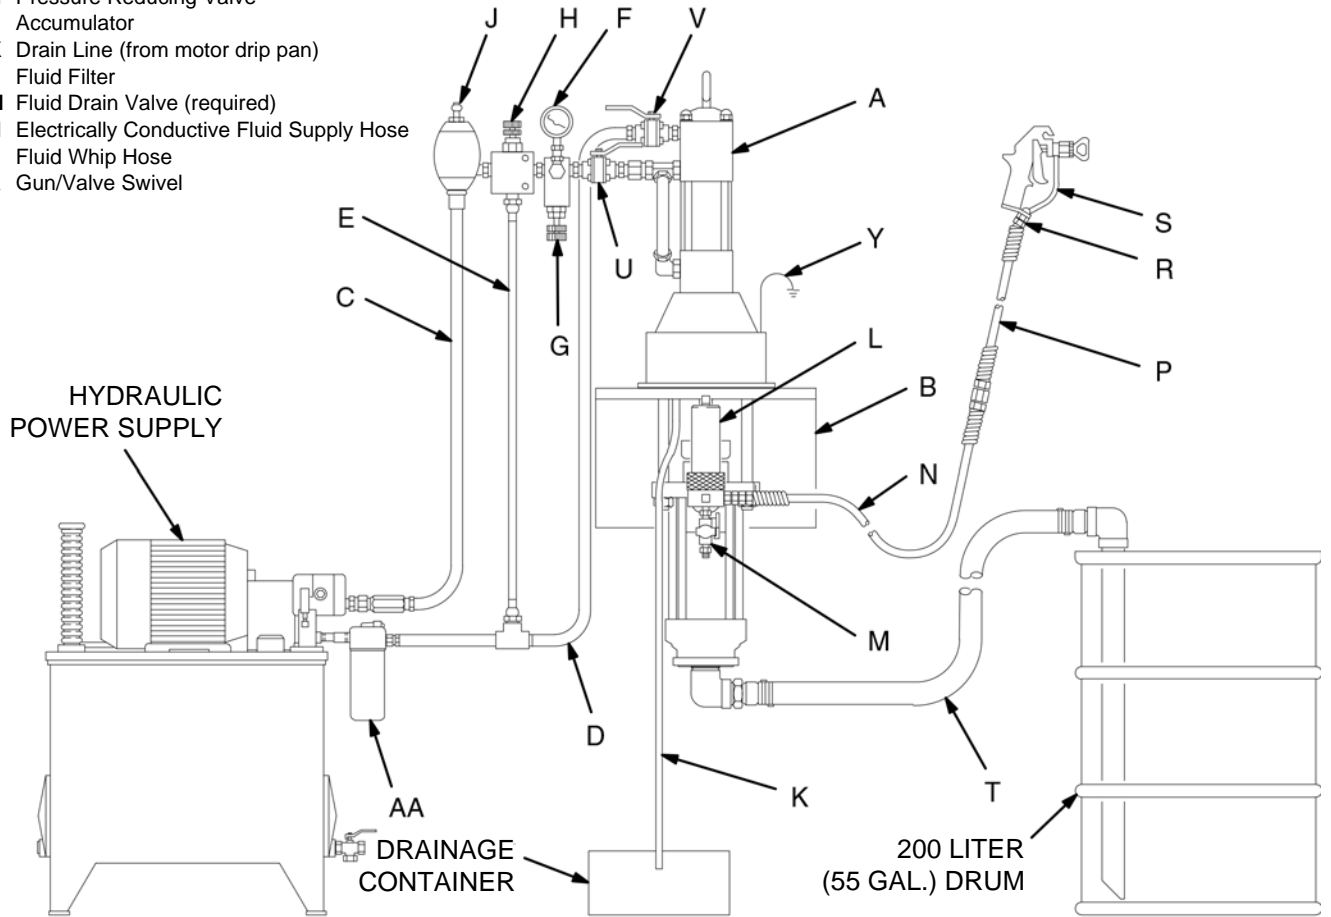

Fig.5
Mount the pump (A) to suit the type of installation planned. Fig. 5 illustrates a wall-mounted system. Pump dimensions and the mounting hole layout are shown on pages 38 and 39.
On the hydraulic supply line (C), install the following accessories in the order shown in Fig. 5, using adapters as necessary:
- **A shutoff valve (U)** isolates the pump for service.
- **A fluid pressure gauge (F)** to monitor hydraulic oil pressure to the motor and to avoid overpressurizing the motor or displacement pump, and a **pressure- and temperature-compensated flow control valve (G)** to prevent the motor from running too fast and possibly damaging itself.
- **A pressure reducing valve (H), with a drain line (E)** run directly to the hydraulic return line (D).
- **An accumulator (J)** to reduce the hammering effect caused by the motor reversing direction.
On the hydraulic return line (D), install the following accessories in the order shown in Fig. 5, using adapters as necessary:
- **A shutoff valve (V)** isolates the pump for service.
- **A filter (AA)** of 10 micron size.
1. Refer to Fig. 5 on page 11. Connect the suction kit (T) to the pump's fluid inlet, and place the tube into the fluid supply.
3. Make certain that the supply line shutoff valve (U) and the return line shutoff valve (V) are closed.
5. Hold a metal part of the gun/valve (S) firmly to the side of a grounded metal pail and hold the trigger open.
6. Open the return line shutoff valve (V) *first*, then slowly open the supply line shutoff valve (U).